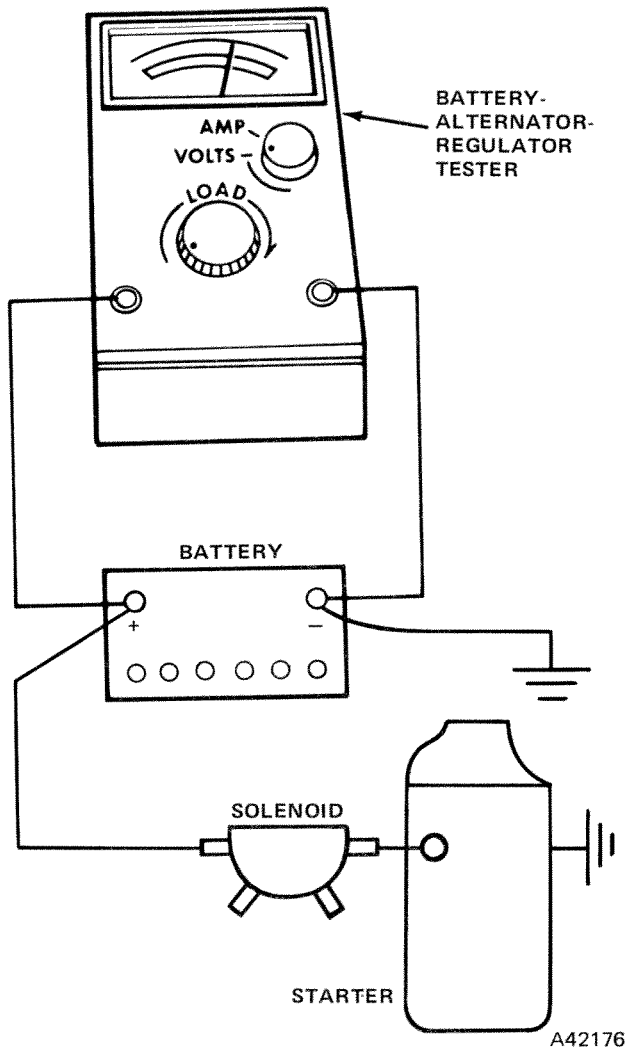

Fig. 3-40 Starter Motor Current Draw Test
(2) Disconnect and ground ignition coil secondary wire.
(3) Connect a remote control starter switch between positive battery terminal and S-terminal of the starter solenoid.
(4) Connect battery-starter tester leads as shown in figure 3-40. Operate remote control starter switch and read voltage indicated on voltmeter while starter is cranking engine.